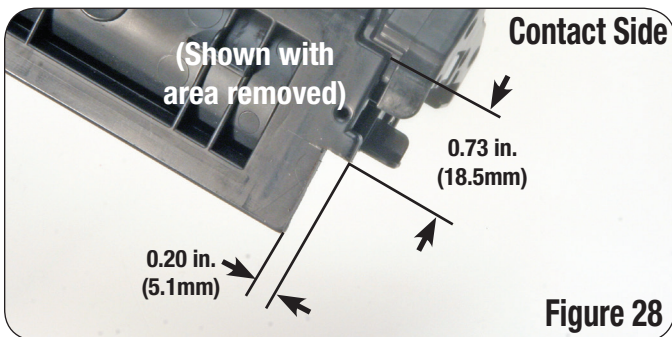

Figure 28
30. For the CB436A, remove an area 0.20 in. (5.1mm) by 0.73 in. (18.5mm). For the CB435A, remove an area 0.20 in. (5.1mm) by 0.60 in. (15.23mm). **Regardless** of the cartridge, the remaining area is 0.73 in. (18.5mm) as measured in Figure 28.